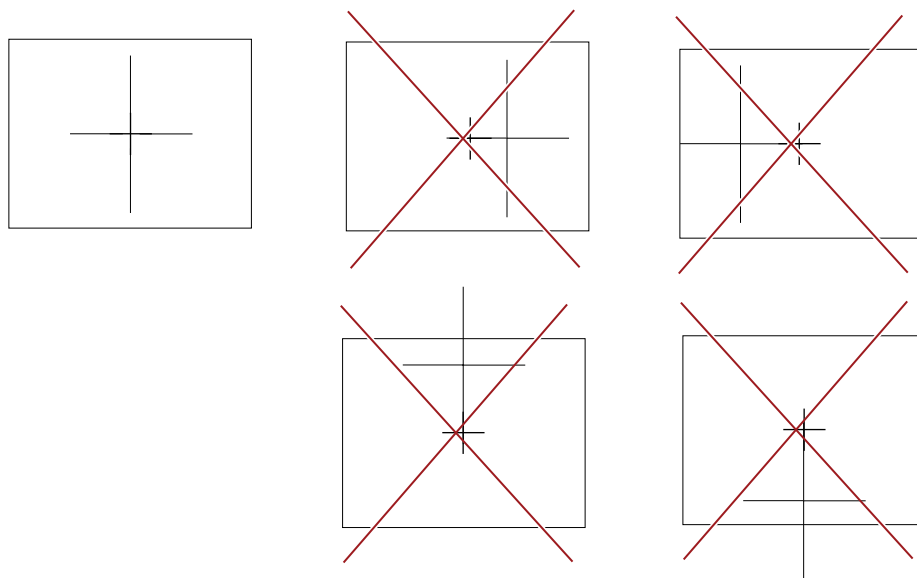

Fig. 4-92
2. Align by the method described in Fig. 4-92 .